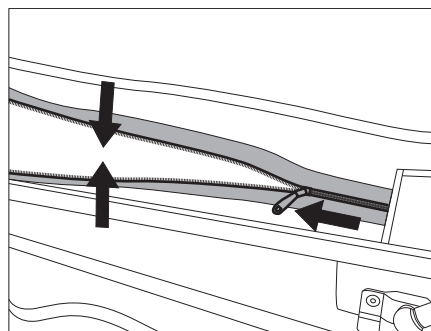

Fig. 49 Relieving the zip
- ▷ When closing the zip pull the pop-up roof downwards so that the zip is not subject to tension (Fig. 49).